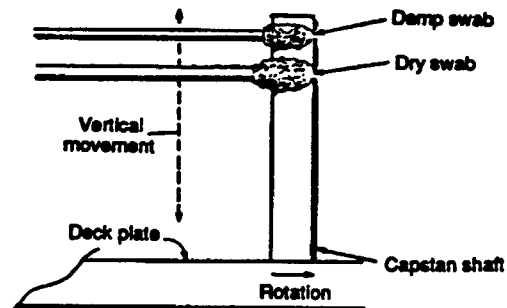

Figure 6-4 Capstan Shaft Cleaning
STEP 7 While applying light pressure to the swabs, move the swabs in a vertical motion (as shown in Figure 6-4).